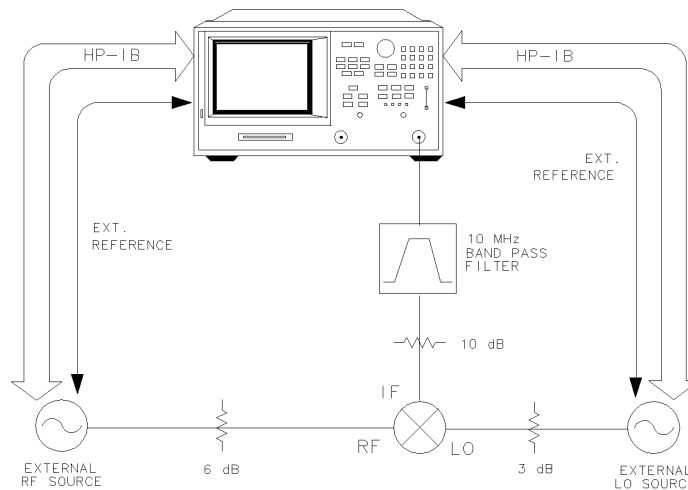

Figure 8-10. Connections for a Conversion Loss Using the Tuned Receiver Mode
This measurement requires two external RF sources as stimuli. Figure 8-10 on page 8-15 shows the hardware configuration for the fixed IF conversion loss measurement. This example measurement procedure uses the analyzer's test sequence function for automatically controlling the two external synthesizers (with SCPI commands), and making a conversion loss measurement in tuned receiver mode. The test sequence function is an instrument automation feature internal to the analyzer. For more information on the test sequence function refer to Chapter 11, "Creating Sequences", or to *Product Note HP 8753-3* (HP part no. 08753-90133).
- 1 Make the following connections as shown in **Figure 8-10**. Set the HP-IB address of the external source to 19, and the external LO source to 21.